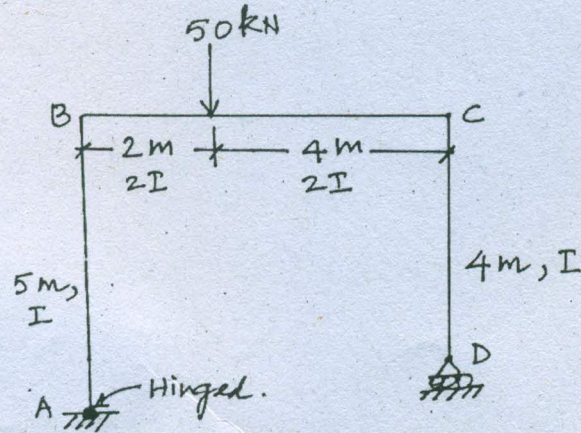

Fig. Q. 11 (a)
11. (a) Determine the horizontal displacement of the roller support-D of the rigid jointed plane from shown in Fig. Q. 11(a). Take $E = 200 \times 10^6 \text{ kN/m}^2$ and $I = 500 \times 10^{-6} \text{ m}^4$.